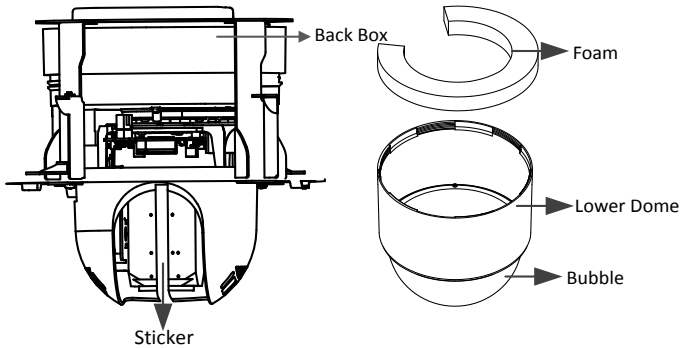

Figure 2-27 Remove the Protective Accessory
2. Rotate the lower dome counterclockwise to separate it from the back box as shown in Figure 2-27.